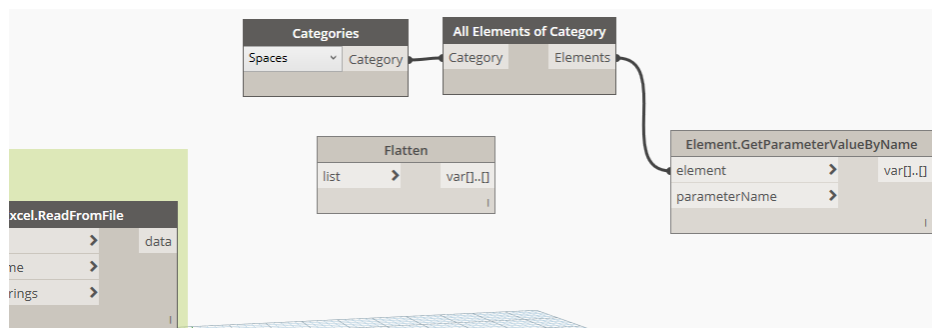

Figure 61
15. Wire the nodes as indicated in Figure 61.